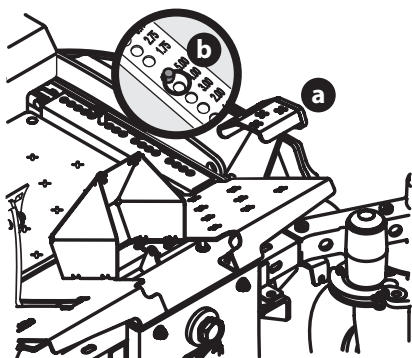

Fig. 1
2. Use the deck lift pedal (a) to raise the deck to its highest position and secure in place with the clevis pin (b) attached to the mower (Fig. 1).